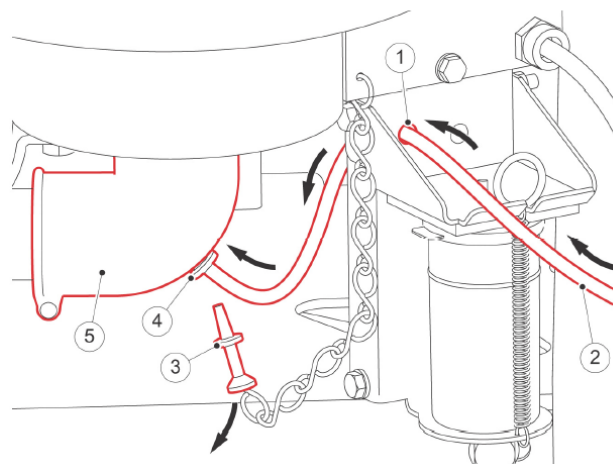

Figure 27. For the Astronaut A3 milking robot.
- To connect the milk tube to an Astronaut A2 or A3 milking robot, pass the milk tube through hole 1, remove nipple 3, put nipple 4 and connect the milk tube to nipple 4, see the figure 27